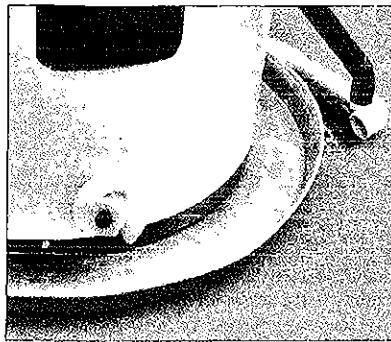

Figure 6 - A suitable drain pan piped to an adequate drain can help protect flooring from leaks and drips.
- Suitable drain pan (see page 8, figure 6)
- Install a suitable drain pan (available from Lowe's®) under the water heater (figure 6) to catch condensation or leaks in the piping connections or tank. Most codes require and we recommend installing the water
- In a suitable drain pan piped to an adequate floor drain or external to the building (See page 8, figure 6).